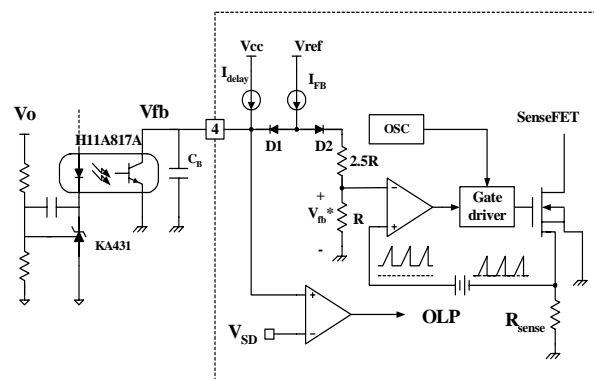

Figure 5. Pulse width modulation (PWM) circuit
2. Feedback Control : FSDM07652R employs current mode control, as shown in figure 5. An opto-coupler (such as the H11A817A) and shunt regulator (such as the KA431) are typically used to implement the feedback network. Comparing the feedback voltage with the voltage across the R_{sense} resistor plus an offset voltage makes it possible to control the switching duty cycle. When the reference pin voltage of the KA431 exceeds the internal reference voltage of 2.5V, the H11A817A LED current increases, thus pulling down the feedback voltage and reducing the duty cycle. This event typically happens when the input voltage is increased or the output load is decreased.
2.1 Pulse-by-pulse current limit: Because current mode control is employed, the peak current through the Sense FET is limited by the inverting input of PWM comparator (V_{fb}^*) as shown in figure 5. Assuming that the 0.9mA current source flows only through the internal resistor ($2.5R + R = 2.8 k\Omega$), the cathode voltage of diode D2 is about 2.5V. Since D1 is blocked when the feedback voltage (V_{fb}) exceeds 2.5V, the maximum voltage of the cathode of D2 is clamped at this voltage, thus clamping V_{fb}^* . Therefore, the peak value of the current through the Sense FET is limited.